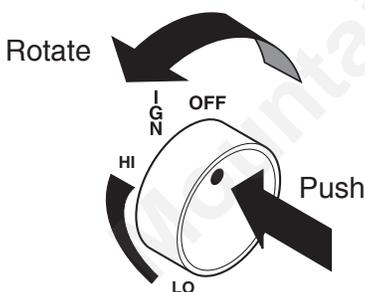

Figure 41 - IGN Position
6. From OFF position, push in gas control knob slightly and turn counterclockwise  to the IGN position. *Figure 41*. Push in and hold control knob for 5 seconds.